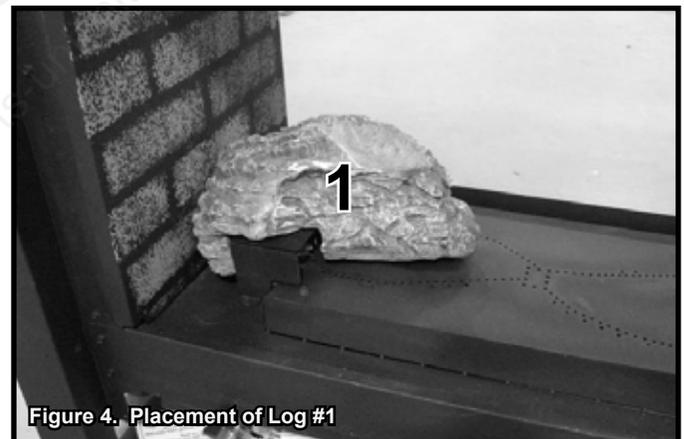

Figure 4. Placement of Log #1
**STEP 2. Log #1:** Place Log #1 so that the large cutout on the bottom of the log fits over the pilot shield as shown in Figure 4. The hole in the bottom of Log #1 interlocks with the head of the shoulder screw on the burner.